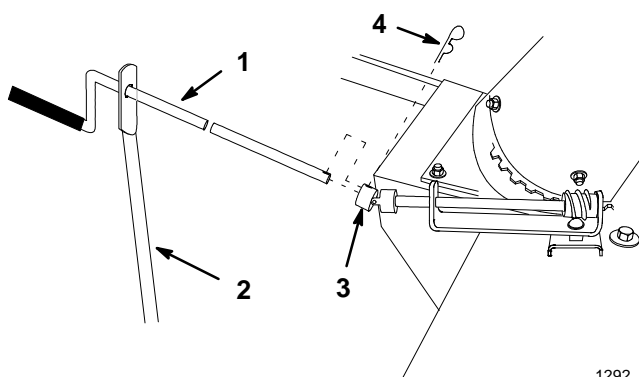

Figure 12
18. Slide crank handle through hole in support and secure handle to U-Joint with hairpin cotter (Fig. 12).